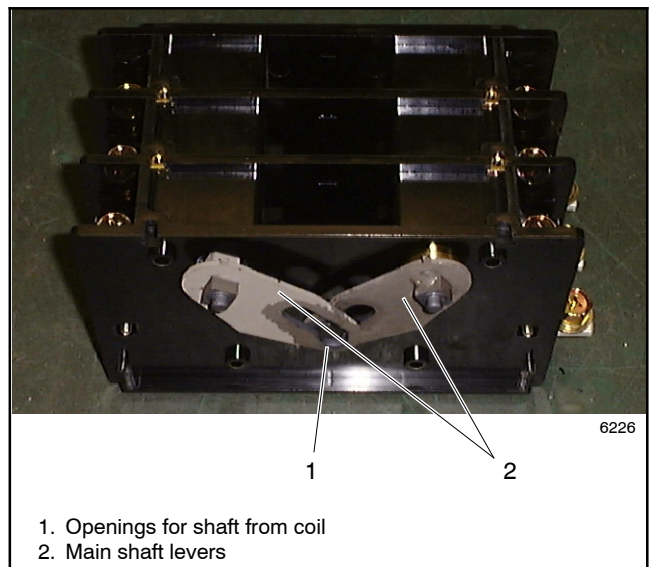

Figure 8-7 Current-Carrying Unit
- Assemble the current-carrying unit and the mechanical unit. Make sure that the shaft from the mechanical unit goes through both main shaft levers. See Figure 8-7.